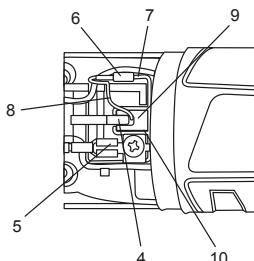

Figure 10
5. Use a small slot screwdriver to lift the end of the coil spring (4) upward and place it on top of the spade connector (5) (Fig. 10).